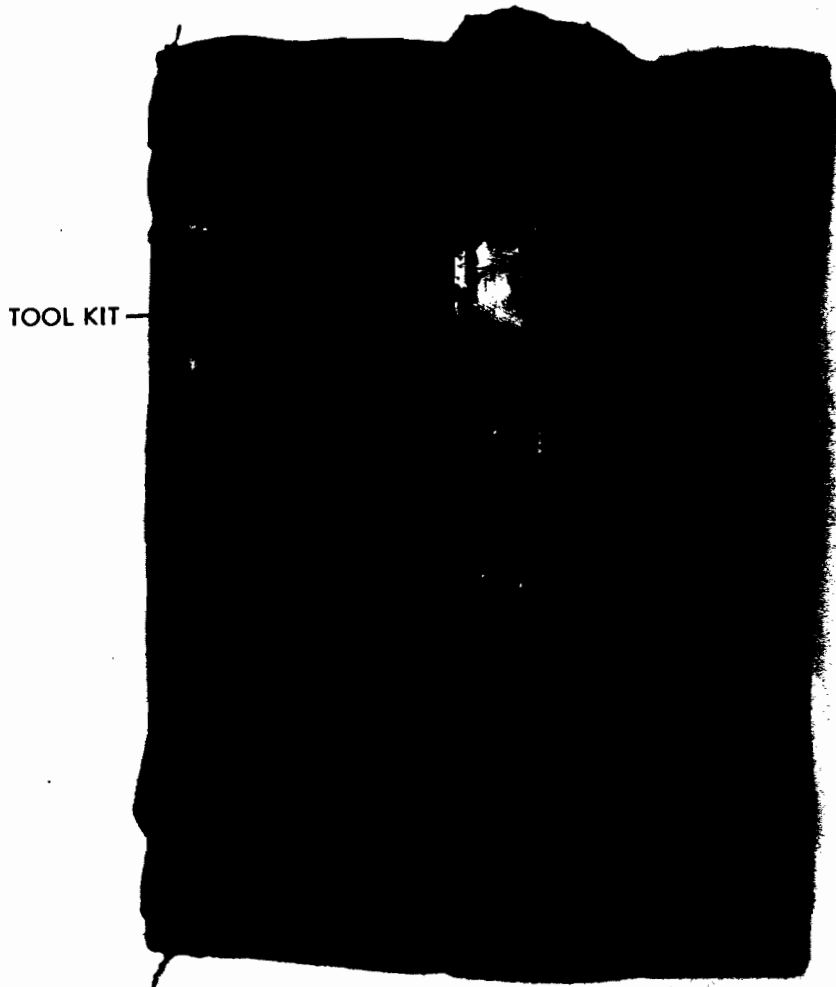

Figure 37. AK-47 magazine carrier.
g. There are a variety of magazine carriers; figure 37 illustrates a typical one. It holds three magazines and a combination tool kit.